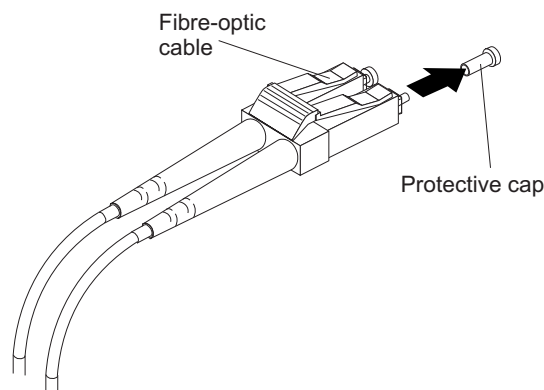

Figure 32. Removing fibre-optic cable protective caps
3. Remove the two protective caps from one end of the LC-LC cable, as shown in Figure 32. Save the protective caps for future use.